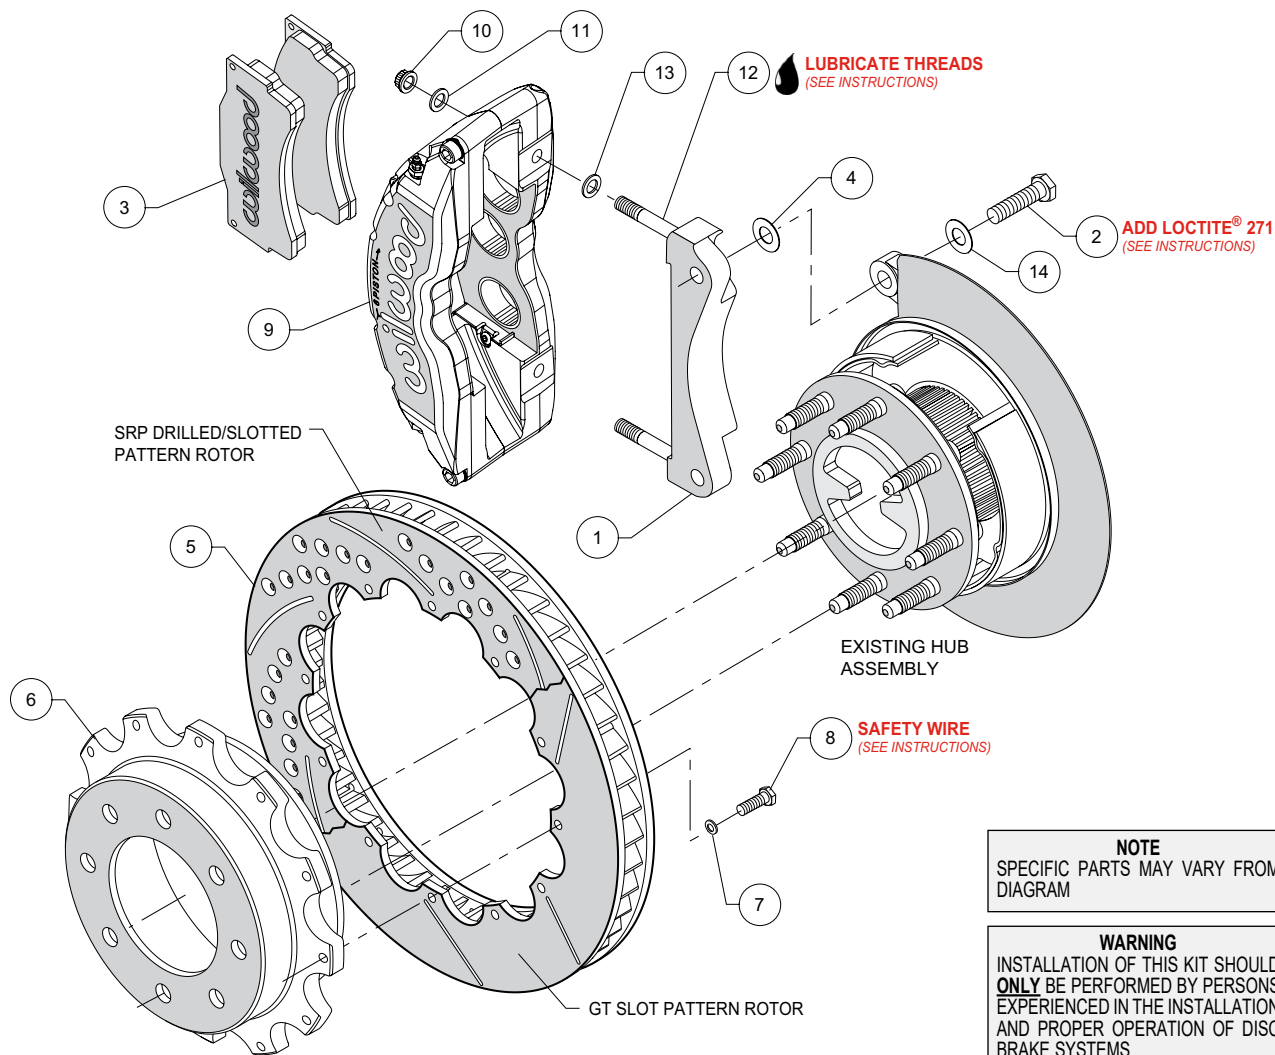
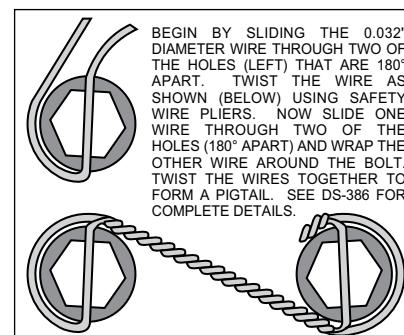

Figure 1. Typical Installation Configuration
Figure 3. Safety Wire Diagram
NOTE: Numbers in parenthesis refer to the parts list and Figure 1 on the preceding pages.
- The caliper mount bracket assembly (1) should be installed first with clean, dry threads on the mounting bolts (2). Install the bracket by sliding bolt (2) through washer (14) from the rear side of the hub through the OEM caliper mounting bracket ears, then through an additional shim washer (4) and into the bracket (1). The bracket must tighten squarely against the outboard side of the caliper mount bosses on the upright. Inspect for interference from casting irregularities, machining ridges, burrs, etc. Use one shim (4) between the bracket and upright during initial trial fitting. Later, after the caliper, pad, and rotor alignment have been checked, and any necessary shims have been put in place, the mounting bolt threads (2) should be coated with red *Loctite*® 271 and torqued to 95 ft-lbs.
- Attach the rotor (5) to the hat (6) using bolts (8) and washers (7) as shown in Figure 1. Using an alternating sequence, torque bolts- to 25 ft-lb. Bolts must be safety wired using standard 0.032 inch diameter stainless steel safety wire as shown in Figure 3. Please refer to Wilwood's data sheet DS-386 (available at www.wilwood.com/Pdf/DataSheets/ds386.pdf) for complete safety wire installation instructions.
- Lubricate caliper mounting studs and nuts with lightweight oil. Install one shim (13) over each stud (12) on the radial mount bracket (1). Slide the caliper (9) in place over the studs and rotor and install the washers (11) [up to 4 may be required on each side to keep the lock nut from bottoming out on the stud], and lock nut (10) to hold the caliper in place. The caliper bleed screws should be pointing up. Snug the lock nuts (10) and check that the rotor (5) is centered in the caliper (9). Add or subtract .029" shims (4) as necessary between the caliper mount bracket and the caliper mount bosses on the upright assembly to center the caliper.
- Remove the two caliper center bridge pad retainer bolts, nuts, and tubes from the caliper. Slide the brake pads (3) into place. They should install easily without interference. Check that the outside radius of the brake pad is aligned with the outside diameter radius of the rotor face. Add or subtract shims (13) between the caliper and mount bracket to gain the proper alignment. Reinstall the two center bridge pad retainer tubes, bolts, and lock nuts. The locknut should be snug without play in the bolt or tube. Be cautious not to over tighten.
- Once all clearances have been checked, remove the wheel, caliper and rotor from the axle flange. Secure the caliper mounting bracket (1) to the axle flange body with bolts (2) while coating the threads with red *Loctite*® 271. Torque the bolts to 75 ft-lbs. Reinstall the rotor and again use several lug nuts to hold it in place. Reinstall the caliper, torque the caliper nuts (10) to 47 ft-lbs.